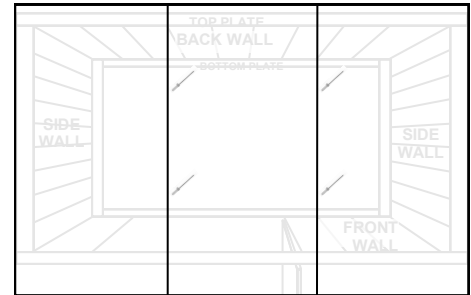

fig.1
- Rivet sheets together at overlaps with 2 x rivets per join (**fig.1**).